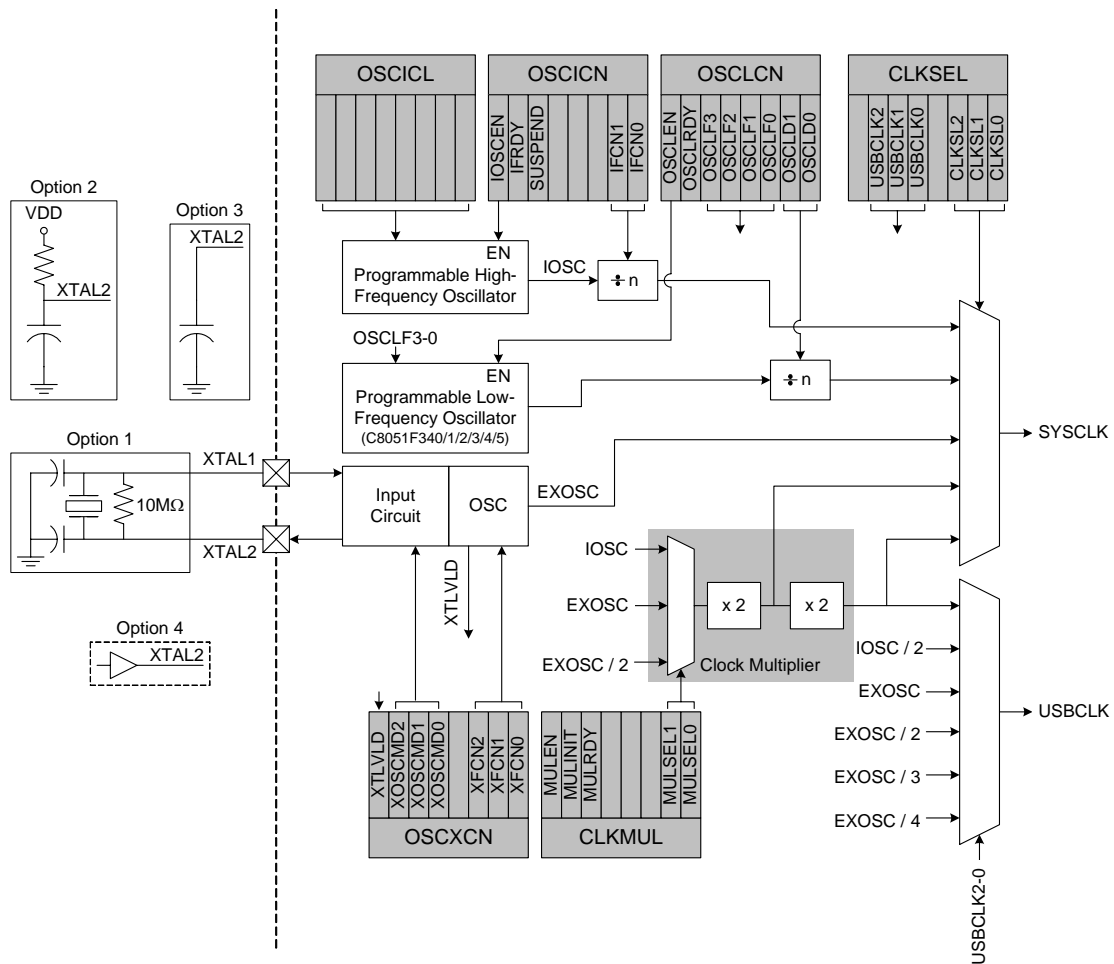

Figure 14.1. Oscillator Diagram
C8051F340/1/2/3/4/5/6/7 devices include a programmable internal high-frequency oscillator, a programmable internal low-frequency oscillator (C8051F340/1/2/3/4/5), an external oscillator drive circuit, and a 4x Clock Multiplier. The internal high-frequency and low-frequency oscillators can be enabled/disabled and adjusted using the special function registers, as shown in Figure 14.1. The system clock (SYSCLK) can be derived from either of the internal oscillators, the external oscillator circuit, or the 4x Clock Multiplier divided by 2. The USB clock (USBCLK) can be derived from the internal oscillator, external oscillator, or 4x Clock Multiplier. Oscillator electrical specifications are given in Table 14.1.
The external oscillator circuit may drive an external crystal, ceramic resonator, capacitor, or RC network. A CMOS clock may also provide a clock input. For a crystal or ceramic resonator configuration, the crystal/resonator must be wired across the XTAL1 and XTAL2 pins as shown in Option 1 of Figure 14.1. A 10 M $\Omega$  resistor also must be wired across the XTAL1 and XTAL2 pins for the crystal/resonator configuration. In RC, capacitor, or CMOS clock configuration, the clock source should be wired to the XTAL2 pin as shown in Option 2, 3, or 4 of Figure 14.1. The type of external oscillator must be selected in the OSCXCN register, and the frequency control bits (XFCN) must be selected appropriately (see SFR Definition 14.4)
If a crystal or ceramic resonator is used as an external oscillator source for the MCU, the circuit should be configured as shown in Figure 14.1, Option 1. The External Oscillator Frequency Control value (XFCN) should be chosen from the Crystal column of the table in SFR Definition 14.4 (OSCXCN register). For example, a 12 MHz crystal requires an XFCN setting of 111b.
If an RC network is used as an external oscillator source for the MCU, the circuit should be configured as shown in Figure 14.1, Option 2. The capacitor should be no greater than 100 pF; however for very small capacitors, the total capacitance may be dominated by parasitic capacitance in the PCB layout. To determine the required External Oscillator Frequency Control value (XFCN) in the OSCXCN Register, first select the RC network value to produce the desired frequency of oscillation. If the frequency desired is 100 kHz, let  $R = 246 \text{ k}\Omega$  and  $C = 50 \text{ pF}$ :
If a capacitor is used as an external oscillator for the MCU, the circuit should be configured as shown in Figure 14.1, Option 3. The capacitor should be no greater than 100 pF; however for very small capacitors, the total capacitance may be dominated by parasitic capacitance in the PCB layout. To determine the required External Oscillator Frequency Control value (XFCN) in the OSCXCN Register, select the capacitor to be used and find the frequency of oscillation from the equations below. Assume  $V_{DD} = 3.0 \text{ V}$  and  $C = 50 \text{ pF}$ :
**CRYSTAL MODE** (Circuit from Figure 14.1, Option 1; XOSCMD = 11x)
**RC MODE** (Circuit from Figure 14.1, Option 2; XOSCMD = 10x)